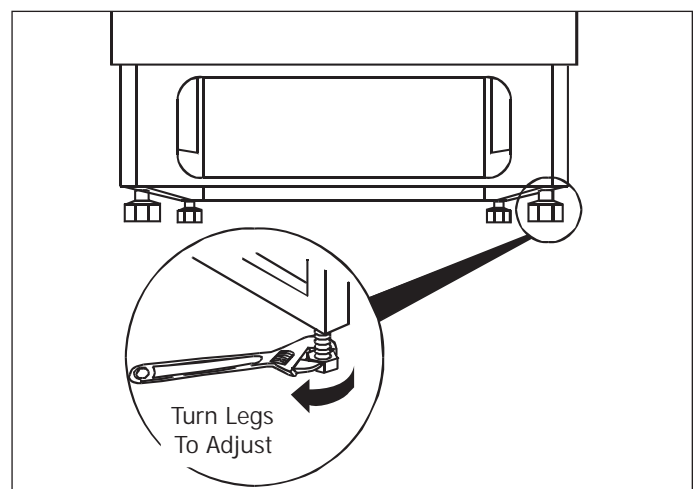

Figure 2-15.
2. Level the dishwasher by adjusting the four leveling legs individually. (See Figure 2-15)